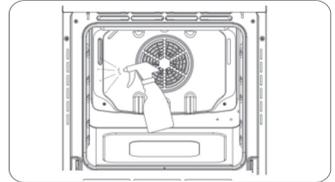

Fig. 4.15
2. Prepare a solution of water (85%), white vinegar (10%), and dish detergent (5%) and spray generously on the door, side walls, and rear wall of the oven cavity (Fig. 4.15).